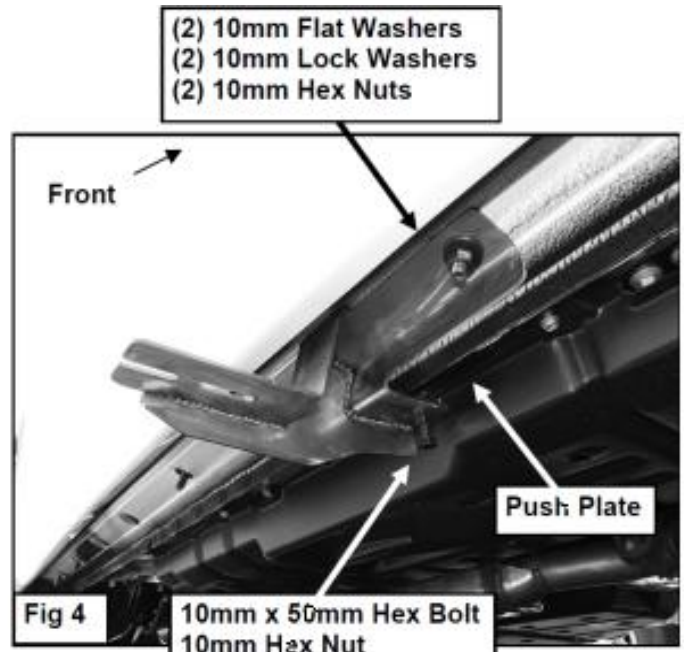

Fig 4
- Start on the passenger side of the vehicle, locate the (9) rubber plugs along the lower body panel. From the front, remove the 3rd and 4th round plugs (**Figure 1**). Select (2) Bolt plates, (**Figure 2**). Check the location for body sealant and scrape away excess as necessary, (**Figure 3**). Insert each Bolt Plate into the factory hole with the long end of the plates facing each other, (**Figure 1&3**). Hold a Front Bracket over the Bolt Plates and line up the (2) mounting holes, (**Figure 4**). Secure the Bracket to the Bolt Plates with (2) 10mm Flat Washer, (2) 10mm Lock Washer and (2) 10mm Hex Nuts, (**Figure 4**). Snug but do not tighten hardware at this time.
- Next, select (1) Support Plate, (1) 10mm Hex Nut and (1) 10mm Hex Bolt, (**Figure 5**). Thread the 10mm Hex Nut all the way down the long Hex Bolt. Screw the Hex Bolt and Nut a few threads into and through the Nut welded onto the back tab on the front Bracket. Insert the Support Plate with the welded socket facing down, into the space between the Front Bracket and the floor panel behind the pinch weld, (**Figure 4 5 &12**). Tighten the Hex Bolt into the socket on the Support Plate until the Plate is close to but not touching the floor panel. Do not tighten hardware at this time.